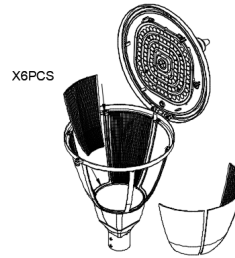

Fig.17
3. Close the Light source module lock screw, as shown in Fig17.